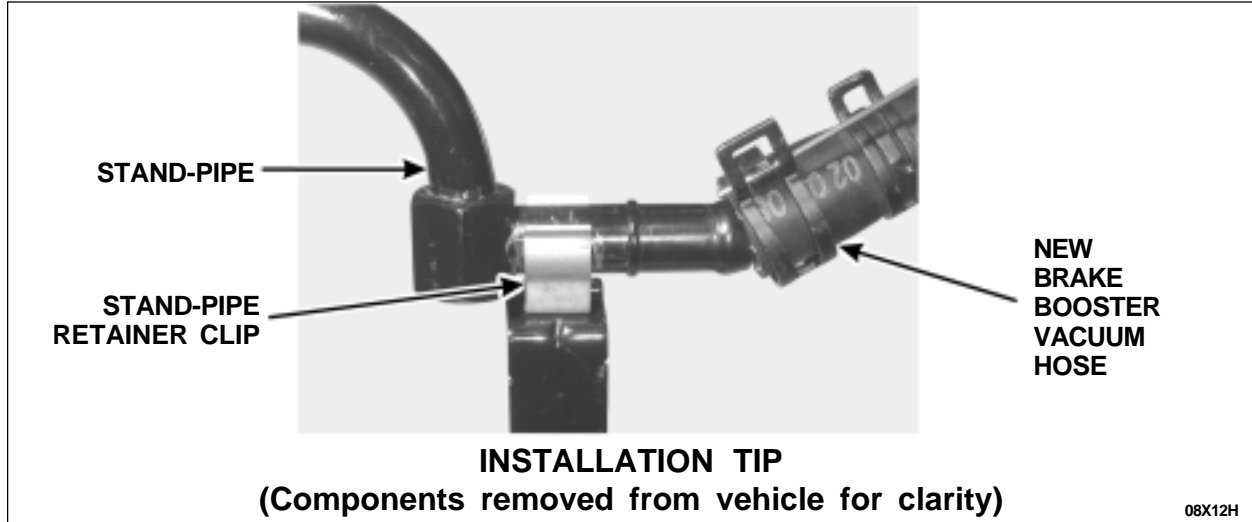

FIGURE 8
1. Make sure that the brake booster vacuum stand-pipe remains clipped into the retainer during installation of the brake booster vacuum hose. See Figure 8.
INSTALLATION TIP: When installing the *new* brake booster vacuum hose, position the hose at an angle to the stand-pipe fitting. Then, slowly twist the hose assembly as you push it onto the stand-pipe fitting. See figure 8.